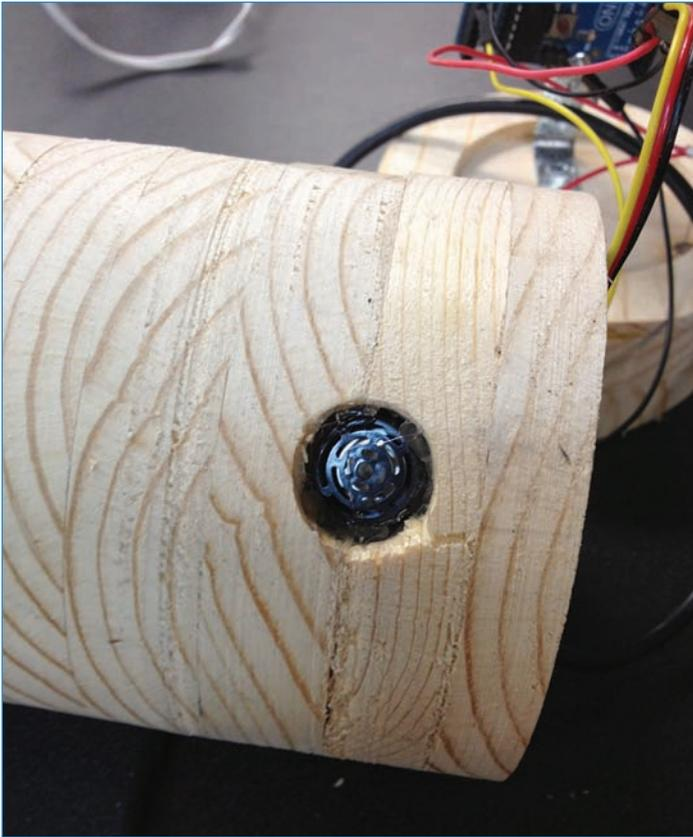

FIGURE 9.19 The business end of the ultrasonic sensor peeks out of the enclosure.
10. Insert the ultrasonic sensor through the base of the cylinder and stick it through the 1" hole you drilled (see Figure 9.19). I used hot glue to secure it; there are screw holes in the sonar's circuit board, but I found them to be fairly inaccessible.